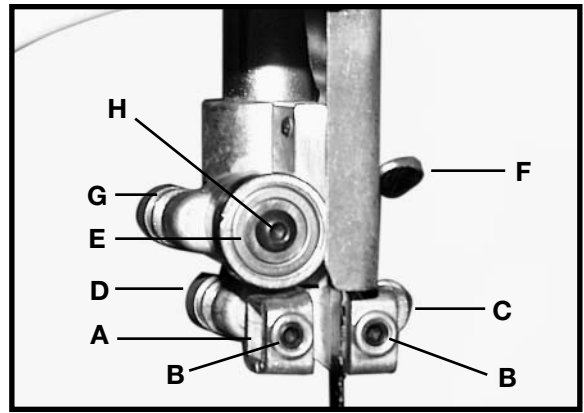

Fig. 26
3. Adjust the guides (A) Fig. 26, so that the front edge of the guides are just behind the "gullets" of the saw teeth. The complete guide block bracket can be moved in or out by loosening the thumb screw (C) and turning the knurled knob (D) Fig. 26. When the guides (A) are set properly, tighten thumb screw (C).
5. Two set screws (B) Fig. 26 hold the upper blade guides (A) in place. Loosen the set screws (B) to move the guides (A). Place them as close as possible to the side of the blade. (Be careful not to pinch the blade). Tighten the screws (B).
6. The upper blade support bearing (E) Fig. 26 prevents damage to the set in the saw teeth by keeping the blade from being pushed too far toward the back. The support bearing (E) should be set $1/64$ " behind the blade by loosening the thumb screw (F) and turning the knurled knob (G) to move the support bearing (E) in or out.
7. Adjust the blade support bearing (E) so that the back edge of the blade overlaps the outside diameter of the ball bearing by about $1/16$ ". The bearing (E) is set on an eccentric. To change the position, remove the screw (H) and bearing (E) Fig. 26. Loosen the thumb screw (F), back out the knurled knob from the set screw. Remove the hex shaft from the hole, and rotate it to move the eccentric for the bearing.
8. When the blade guide wears to a point that it cannot be adjusted close to the blade, loosen screw (B) Fig. 26 and reverse the blade guides (A) Fig. 26.